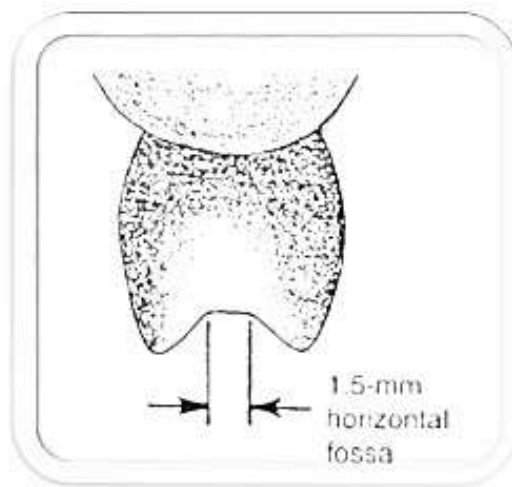

Figure 2:-
2. Occlusal anatomy should be modified to provide a true horizontal fossa. (Figure 2)